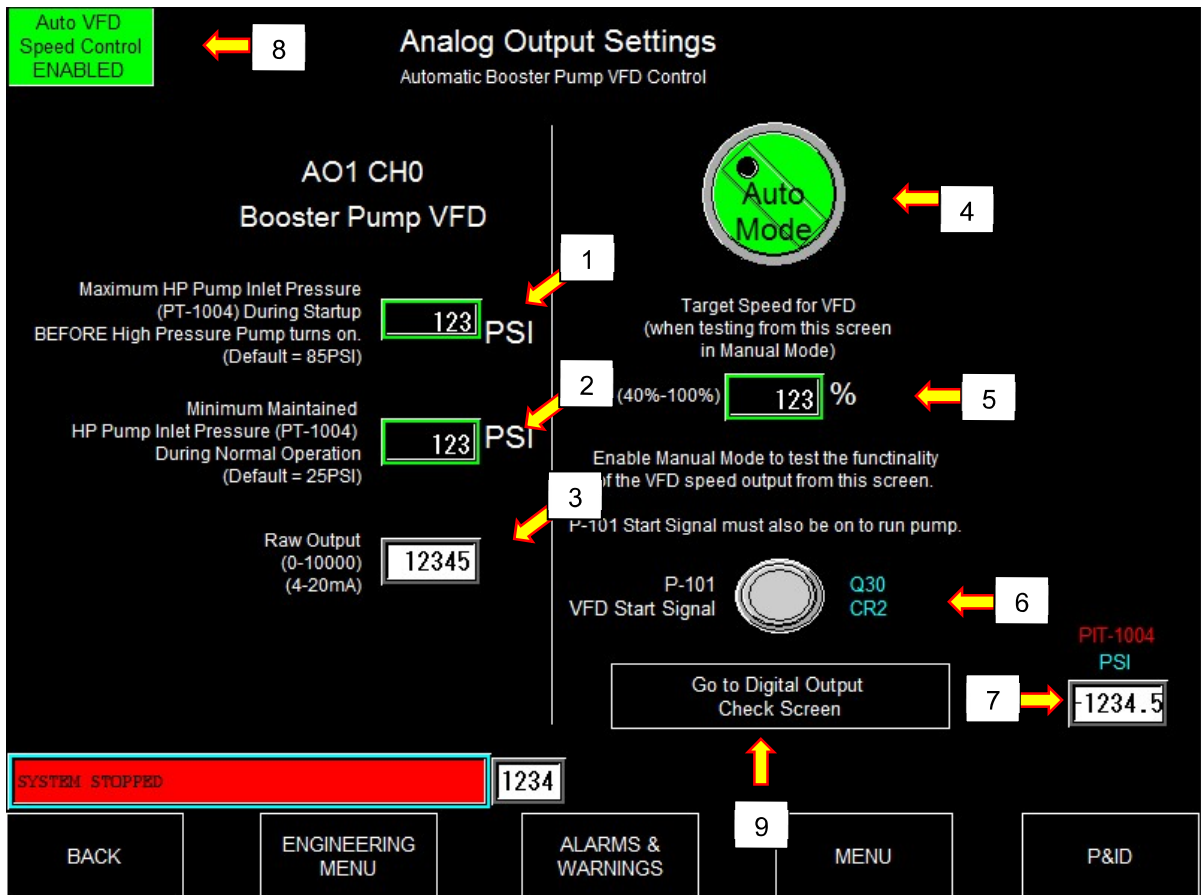

Figure 5.7 - Analog Output Settings (Automatic VFD Speed Control)
- 4) Set Booster pump to 65% (See item 5 in Figure 5.7 above).
- 5) Turn on boost pump – press start signal (See item 6 in Figure 5.7 above). Verify pressure PIT-1004 is between 25 and 75 psi (See item 7 in Figure 5.7 above). If not change % down or up depending on pressure. More % more pressure.
- 6) Return to digital output screen (See item 9 in Figure 5.7 above).